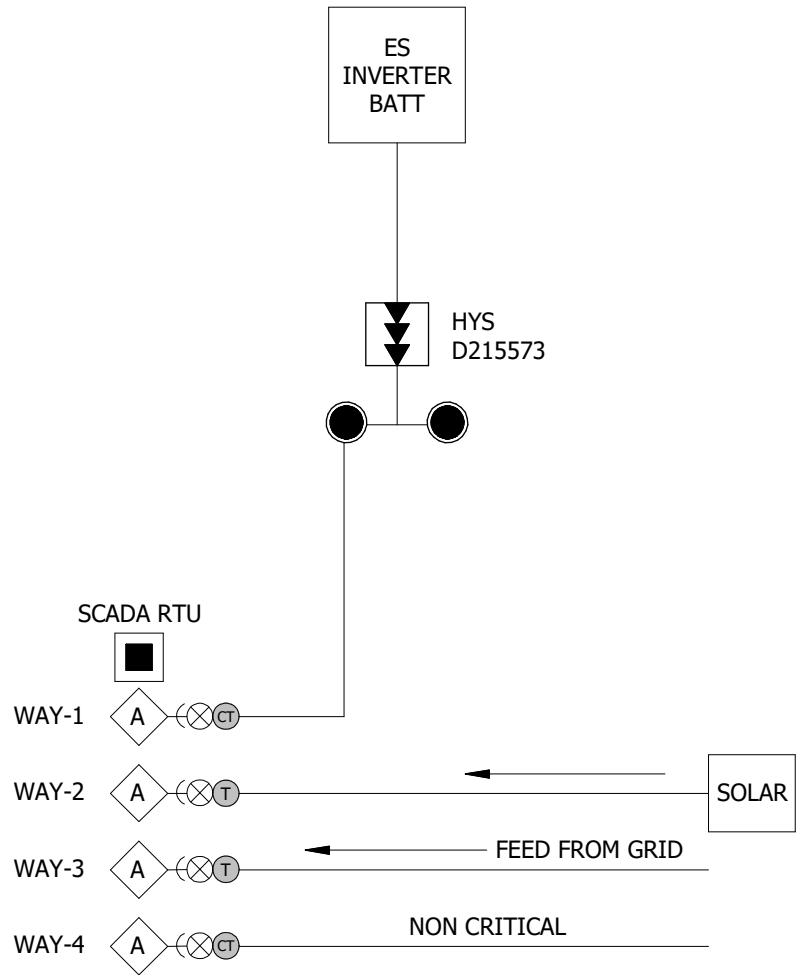

FIGURE 2
- (II) TABLE OF TYPICAL MOUNTING BRACKETS PROVIDED BY EQUIPMENT MANUFACTURERS SHOWN FOR PURPOSES OF DEFINING BOLT SPACING FOR MOUNTING INDIVIDUAL PIECES OF EQUIPMENT ON UNIVERSAL PLATE.
- (III) ENSURE POLE MANUFACTURER DRILLS FOUR 5/8" THROUGH-HOLES, TWO ON EACH SIDE OF THE MOUNTING BRACKET (AS SHOWN ON FIGURE 2) AND WELDS 1/2" STAINLESS STEEL NUTS OVER EACH HOLE. GROUND NUTS SHALL BE LOCATED ON SAME FLATS AS VANGS. REFERENCE GROUND LUG.
- (IV) MAXIMUM WEIGHT FOR INDIVIDUAL PIECES OF EQUIPMENT.
- (V) HANGING WEIGHT INCLUDES MAXIMUM PIECES OF EQUIPMENT PLUS HARDWARE (FOR EXAMPLE: 3 TRANSFORMERS PLUS HUBBELL CLUSTER MOUNT BRACKET OR INERTIA SW PLUS ARRESTERS).
- (VI) COMBINED MAXIMUM ALLOWABLE WEIGHT WITH THREE TRANSFORMERS ON HUBBELL BRACKET IS 4,850 LBS.
- D CONFIGURATION 02 (TRADITIONAL SCADA TRAYER), SEE FIGURE 2: